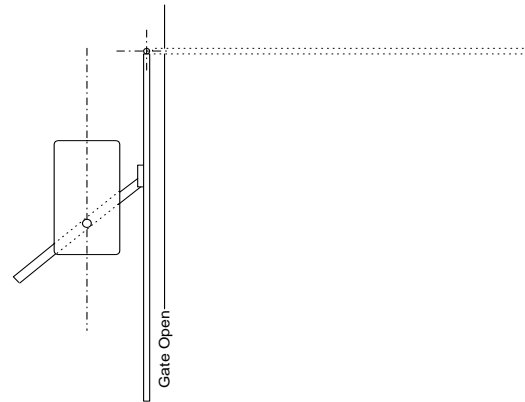

Figure 19
- Manually open the gate. The connecting arm should rotate beneath the drive arm and output shaft. When the gate is fully open, the drive arm should be directly over the connecting arm as shown in Figure 19.